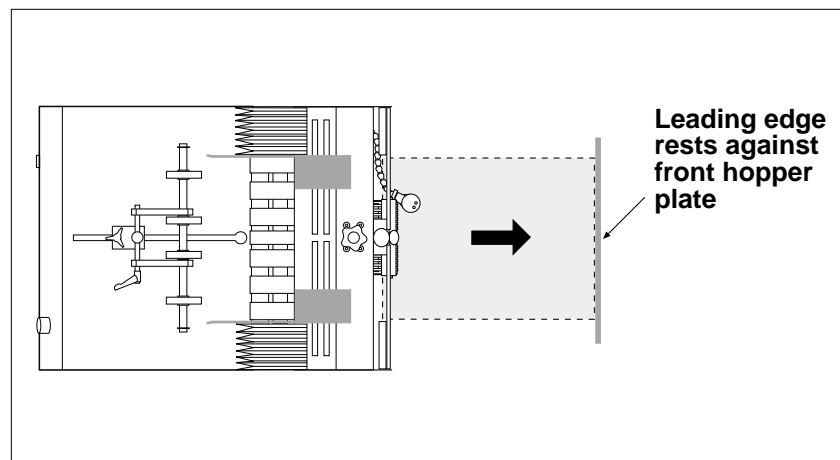

Figure 3-15. Moving the First Sheet Into Position
2. Use your finger or thumb on the drive belt or one of the feed rollers to manually move the bottom sheet of material through the gate assembly area and under hold-down springs. Continue until material leading edge is in-line with front hopper plate, then stop (Figure 3-15).